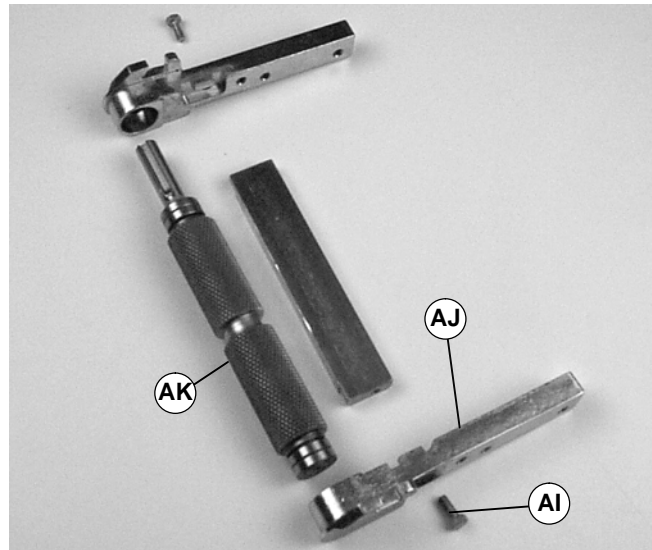

Figure 31
5. Remove screw (AI of Figure 31).
6. Remove headplate (AJ).
7. Remove pulley (AK).